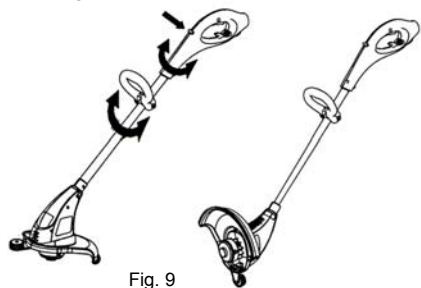

Fig. 9
2. Press the hand grip release button and turn the hand grip 180° counter clockwise. (Fig. 9)
3. Loosen the handle locking nut and turn the handle 180° clockwise also. Adjust this handle to a comfortable position to hold. (Fig. 9)
7. Press the hand grip release button and turn the hand grip 180° clockwise. (Fig. 9)
8. Loosen the handle locking nut and turn the handle 180° clockwise also. Adjust this handle to a comfortable position to hold. (Fig. 9)